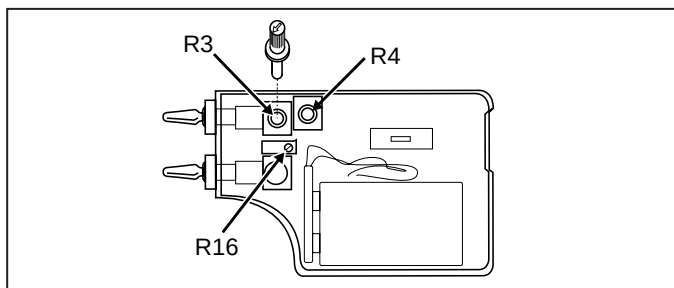

Figure 3. Calibration Adjustment Points
7. Center the ZERO potentiometer, R3 (see Figure 3). Remove the knob from R3 and insert it into R4 (the coarse zero adjustment). With no pressure applied, set the reading to $0V \pm 0.0003V$. Insert the knob back into R3, and adjust the final reading to $0.0000V$, $\pm 0.0001V$.